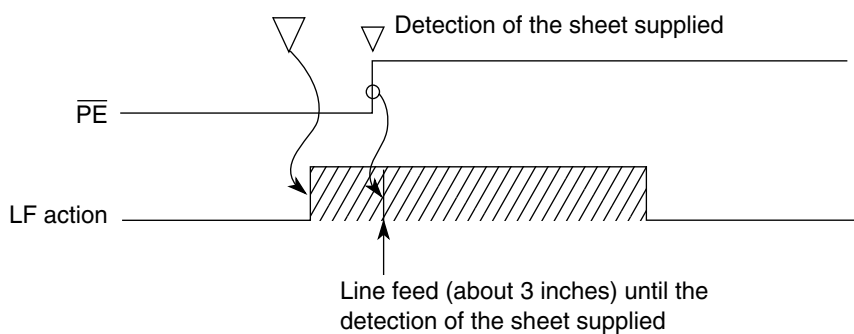

**Figure 14**
### 2.3.7 Automatic Sheet Feed (See Figure 14.)
- 1) Set the change lever to the **TOP** position. (See Figure 14.)
- 1) Set the change lever either to the rear side or the bottom side position. (See Figure 14.)